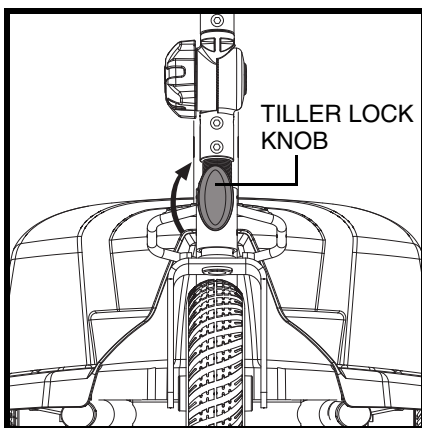

Figure 22. Tiller Lock knob (Locked)
2. Lock the tiller in the straight ahead position by pushing the tiller lock knob in and turning it clockwise 90°. See **figure 22**. The front wheel must face forward in order to lock the tiller.